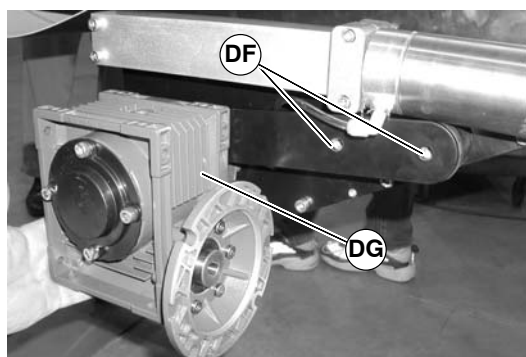

Figure 95
3. Remove screws (DF of Figure 95) and remove gearmotor (DG) (NOTE: Gearhead shown with motor removed for clarity, motor can remain attached to gearhead).